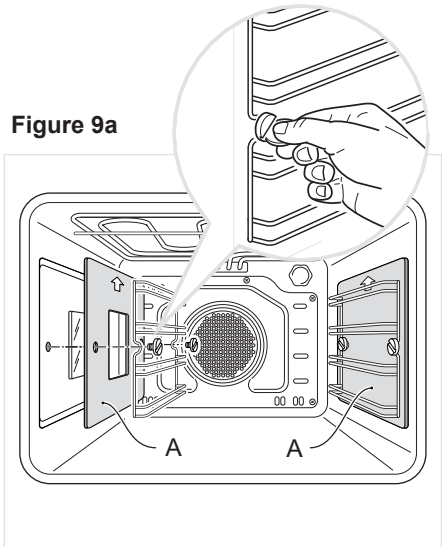

Figure 9a
- Assemble the wire racks on the oven walls using the 2 screws interposing the catalytic panels "A" with the arrow up (fig. 9a). The catalytic panel with the hole for the side oven lamp must be positioned on the left oven wall. DO NOT INTERPOSE THE CATALYTIC PANEL WITHOUT THE HOLE ON THE LEFT OVEN WALL.
- Unscrew the fixing screws and slide off the wire racks and the catalytic liners to the oven wall as in fig. 9a.